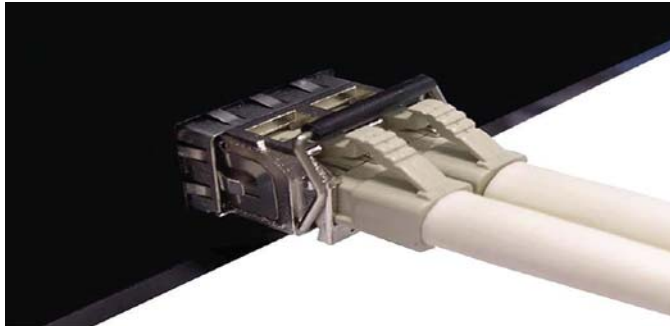

Figure 8. LC Connector to the Transceiver
2. Insert the fiber cable of the LC connector into the transceiver as shown in figure 8.